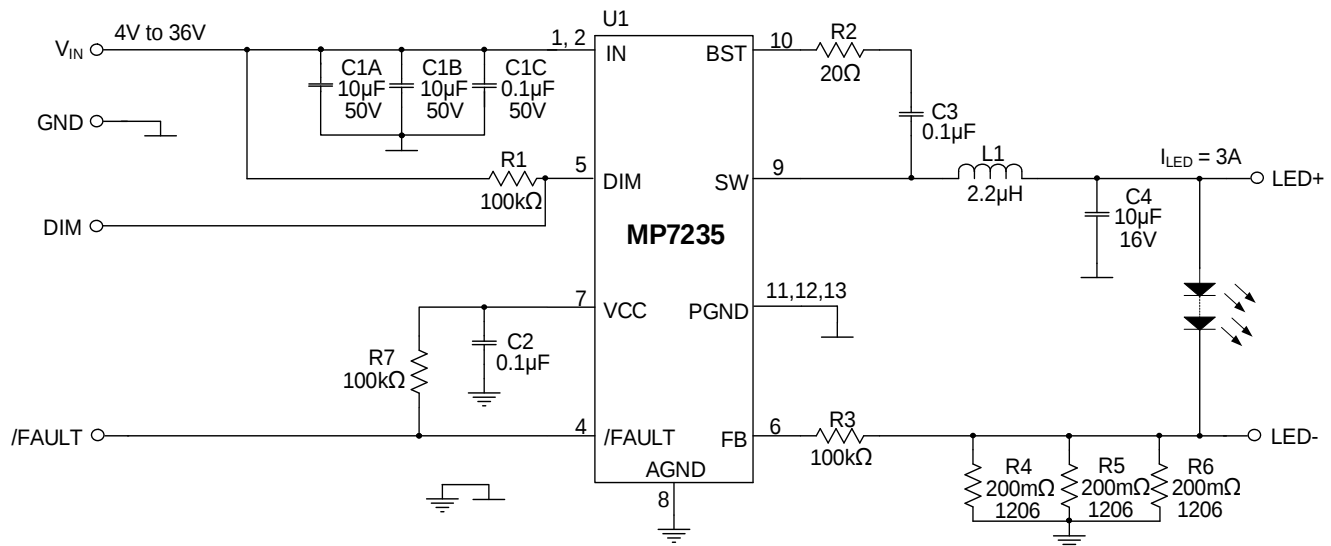

Figure 8: Typical Application Circuit ($I_{LED} = 3A$)
13) The recommended PCB layout is based on the Typical Application Circuit (see Figure 8 on page 28).